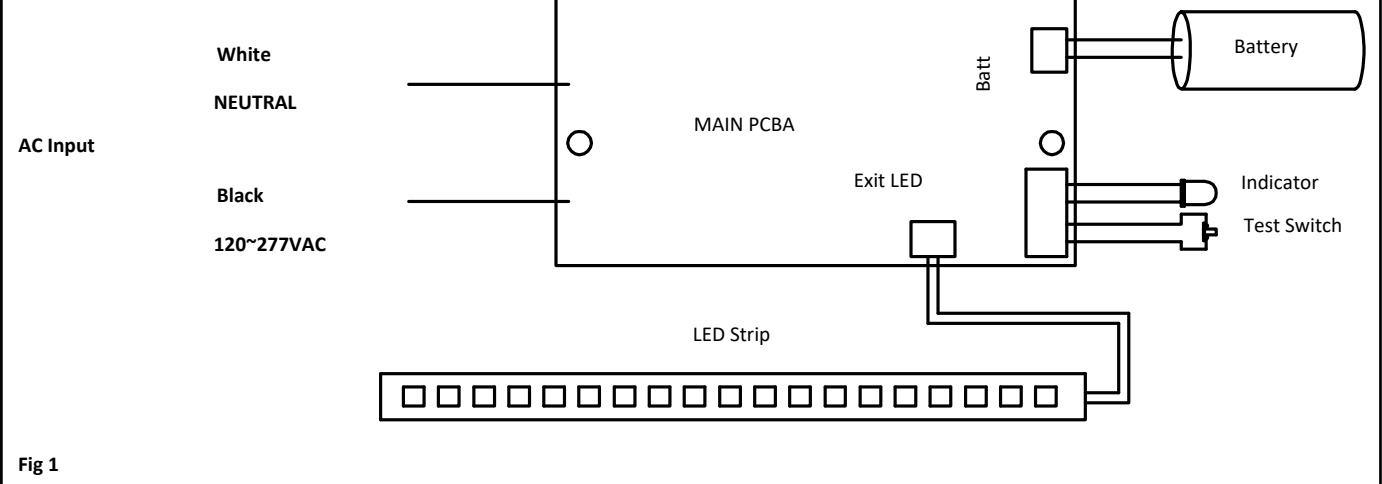

Fig 1
5. Make electrical connections according to wiring diagram. (see Fig 1)